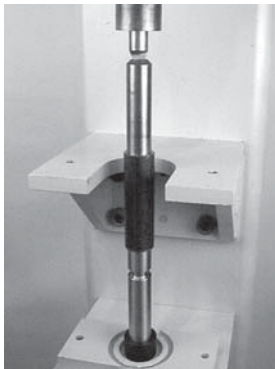

Figure 116
4. Using an arbor press or similar device, press bearing onto pulley shaft (**Figure 116**).